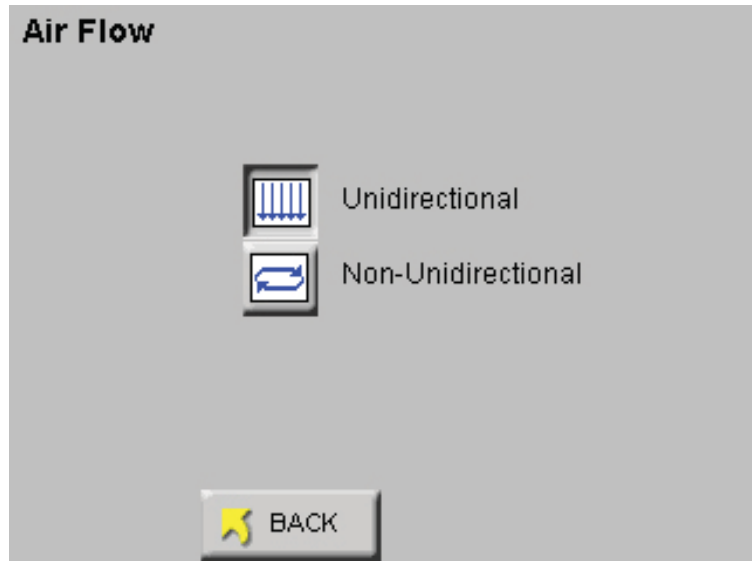

Figure 6-85 Reports Air Flow Screen
- Press the FLOW button to display screen shown in Figure 6-85.